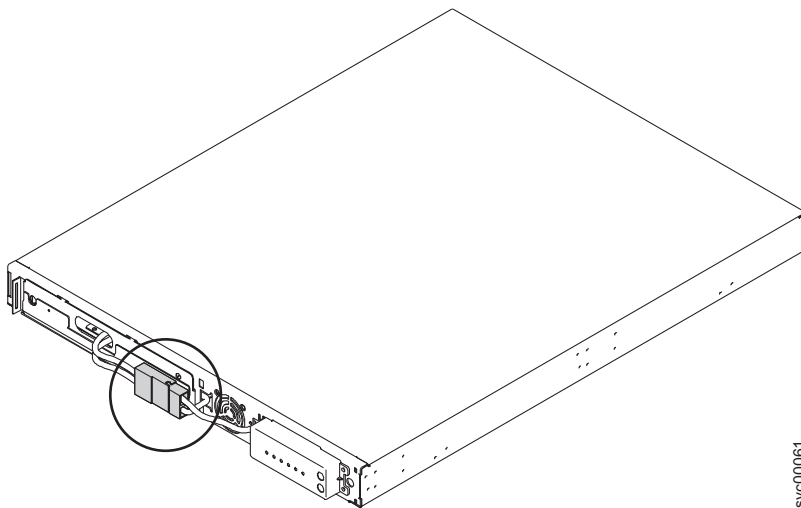

Figure 317. The 2145 UPS-1U with internal battery connectors in place
7. Connect the internal battery connector (circled in Figure 317).